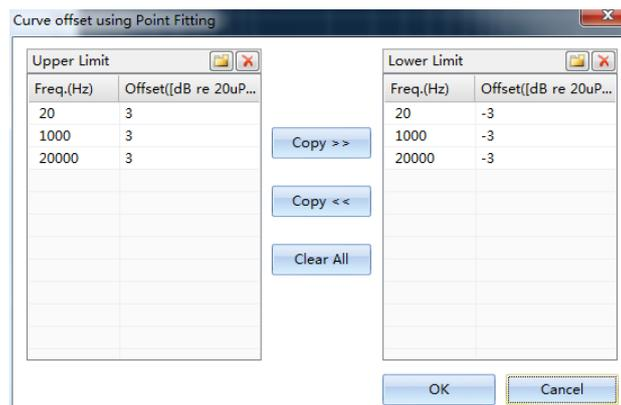

Figure 5.43 Curve Offset Using Fit Points
(3) Click "Fit Points", window as shown in Figure 5.43 pops up. The offset is set to be 3db. The data can be copied between left and right.